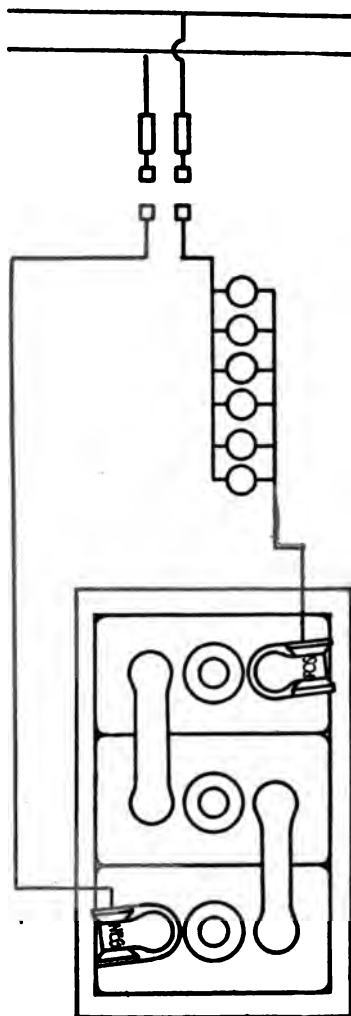

Fig. 480. Diagram of Connections for Charging Six-Volt Storage Battery from Lighting Circuit
**A.** By inserting a double-pole single-throw switch and 10- or 15-ampere fuses on taps from the mains and ordinary incandescent lamps in series with the battery to reduce the voltage, Fig. 480.